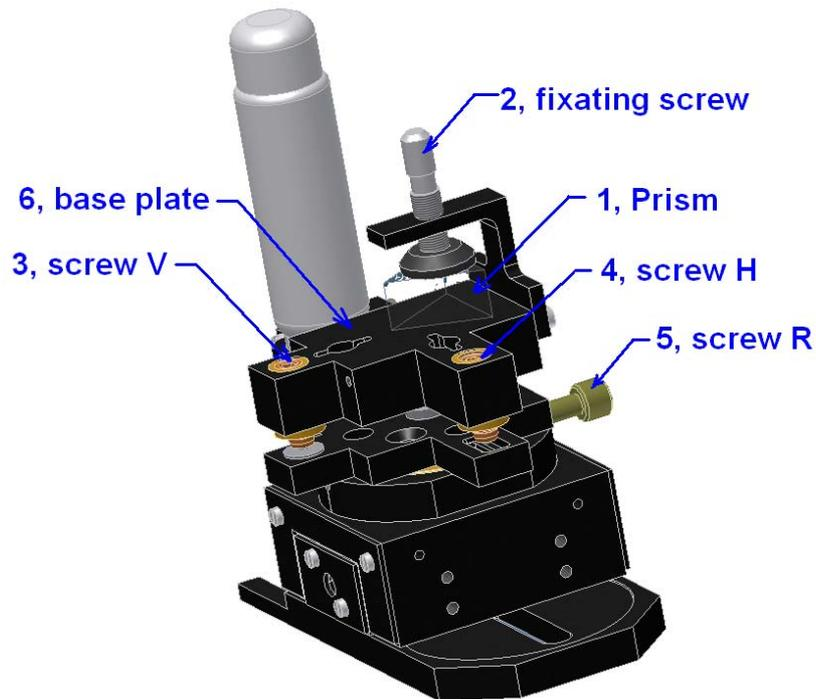

Figure 8. Schematic picture of prisms fixation and service
- *Loosen but don't remove the rotation fixation screw R (Figure 8).*
- *The heights of the beams should be also 70 mm above the laser head table top. If it is necessary use the adjusting screws to align the prism (see Figure 8).*